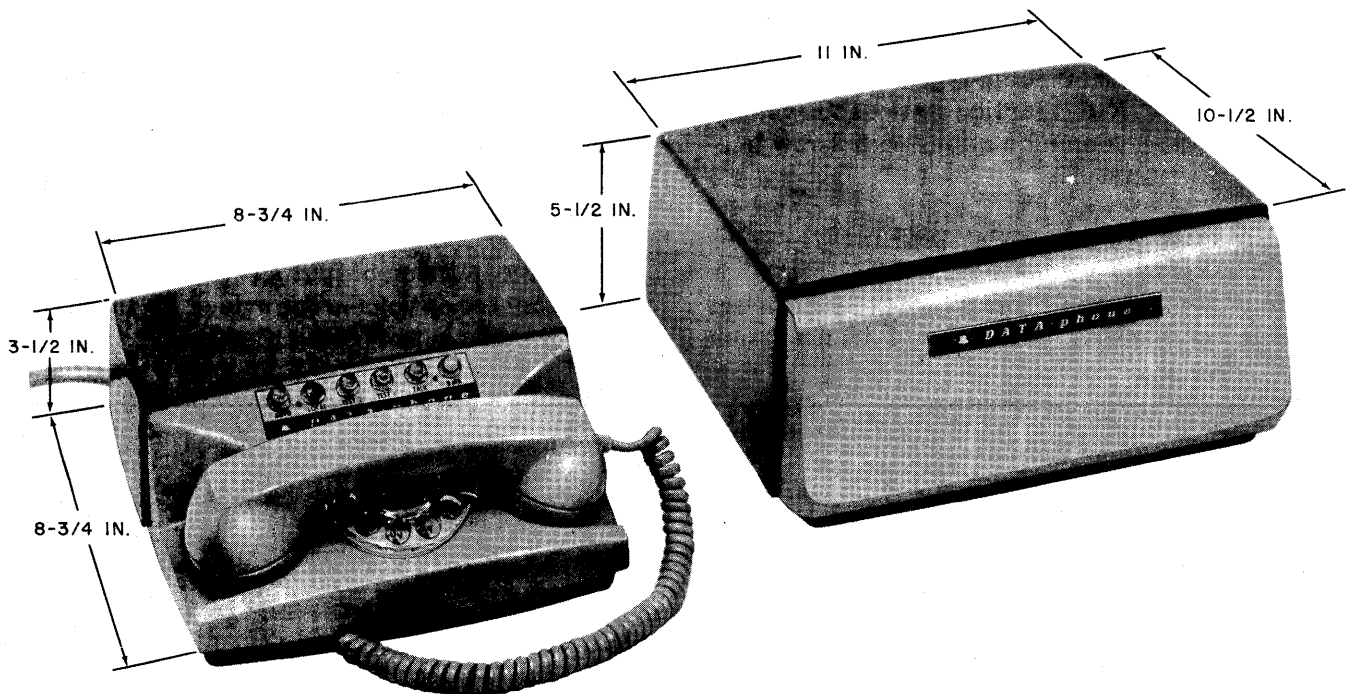
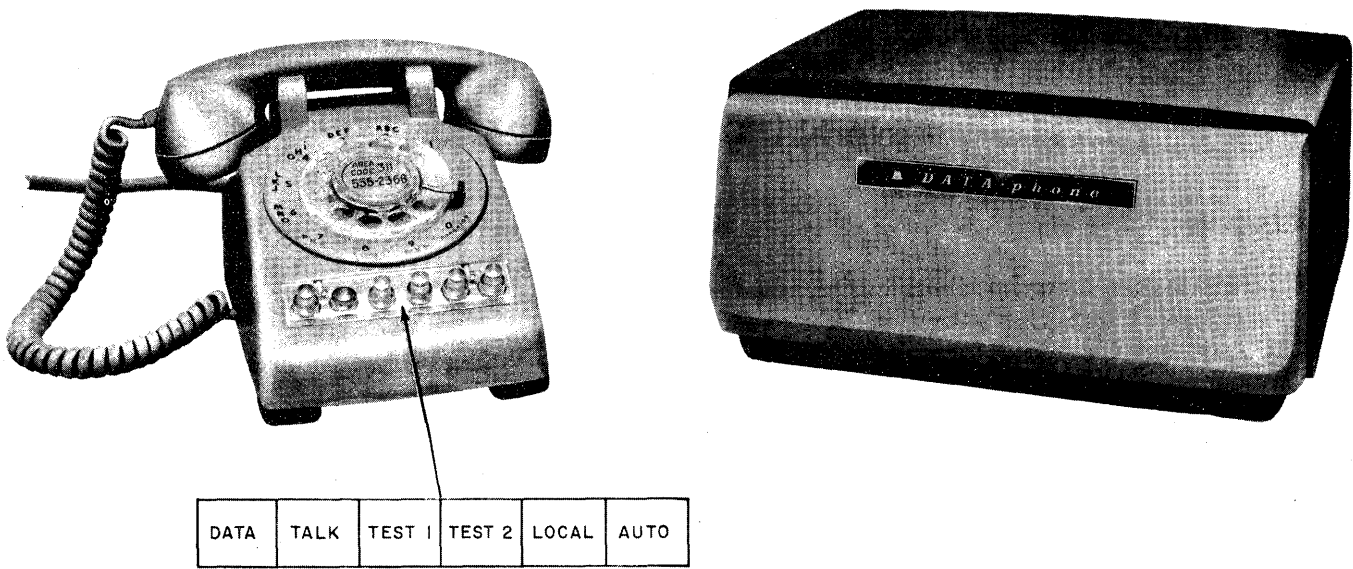

Fig. 1 — Data Set 103A Type and Data Auxiliary Set 804B1
Fig. 2 — Data Set 103A Type and 567PB-61 Telephone Set (Manufacture Discontinue)
1.01 This section includes identification and operation of Data Set 103A type (Fig. 1 and 2). It does not include information related to business machines used with this type data set.
1.04 A Data Auxiliary Set 804B1 (Fig. 1) or 567PB-61 Telephone Set (MD) (Fig. 2) is required for external control of the data set and for establishing the data set transmission